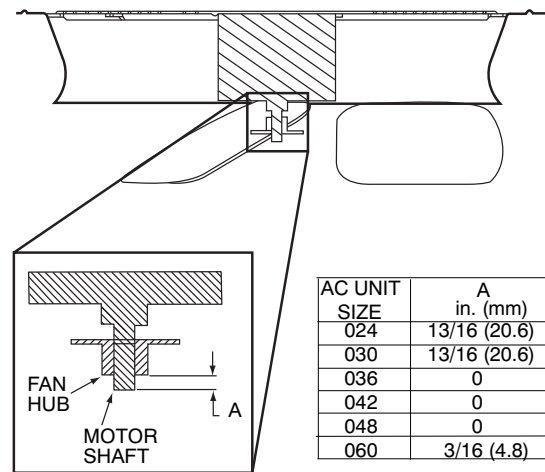

Fig. 17 – Outdoor Fan Adjustment
5. When replacing fan blade, position blade as shown in Fig. 17. Tighten setscrews.